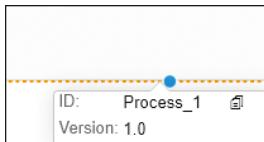

Figure 6.63 Version of the Selected Integration Process Prior to Migration
3. To check the current version of the component, click on the **Information**  icon. The information screen shows that the version is 1.0 (Figure 6.63).